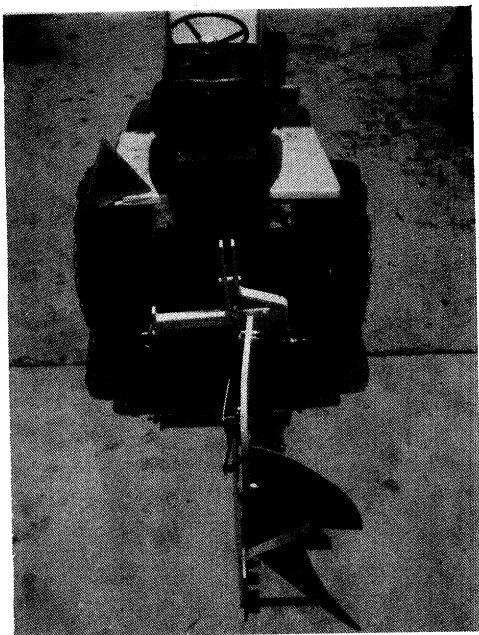

FIGURE 37.
9. Use the two side adjustment bolts to adjust the beam so the landslide travels in a line parallel to the centerline of the tractor. (See figure 37.)